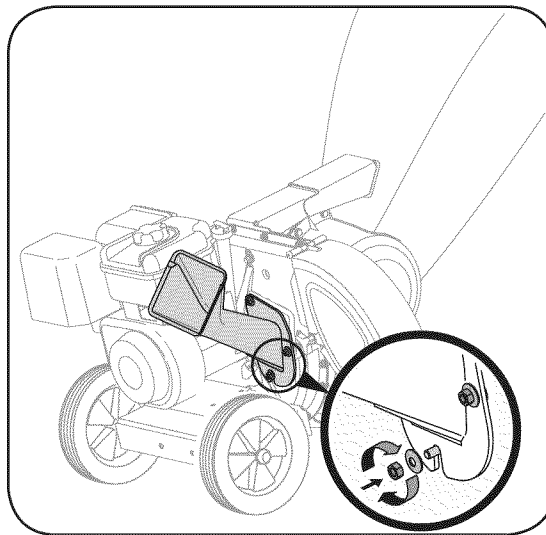

Figure 3-9
- b. Secure chipper chute with the three cupped washers (cupped side against the chipper chute) and hex nuts previously removed. Tighten the nuts at this time. See Figure 3-9.